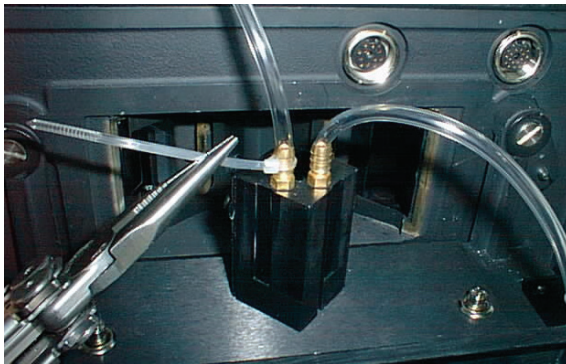

Figure 20 Attaching the tubing to the cellholder
3. Attach the tubing to the cellholder nozzles and secure with cable ties or clamps, as shown in Figure 20.